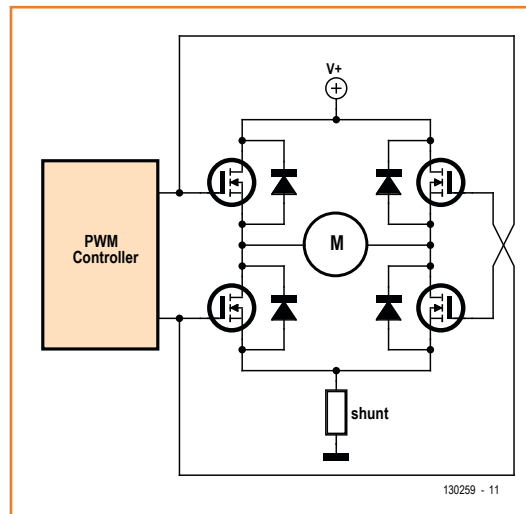

Figure 1. Full bridge control of motor speed and direction. The shunt is optional.
Remote control (RC) is used for model aircraft, race cars, boats and trains to mention but a few examples. The principle is simple: an RC transmitter sends code representing the position of one or more control levers (“sticks”) to the receiver in the model. Depending on the position of the levers a pulse of 1 to 2 ms with a repetition rate of 50 Hz will become available in the model. This pulse can be used directly for controlling servo motors, but must be ‘translated’ for DC motors into a forwards- (aircraft and race car models), or forwards/reverse- (model train, boat) speed control. There are commercial RC receivers available with pulsewidth modulation (PWM) outputs to control the speed of a DC electromotor. This article describes how you can build a PWM-based speed control yourself on a remarkably small PCB still yet using discrete components for the most part. A microcontroller can translate the RC duty cycle (5-10%) into a 0-100% PWM signal both in a forward or reverse direction by means of two PWM signals and a MOSFET bridge, see **Figure 1**. When one bridge input is kept Low and the other